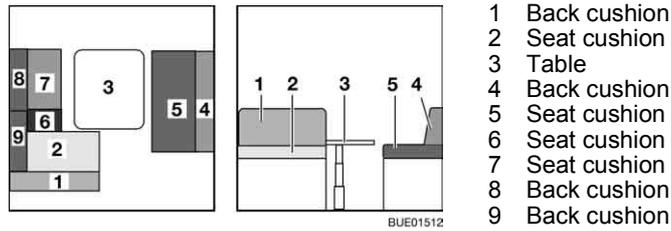

Fig. 149 Prior to conversion
- Convert the table (Fig. 149,3) to a bed foundation (see section 6.11).
- Remove the back cushions (Fig. 149,1 and 8) and lay them aside.